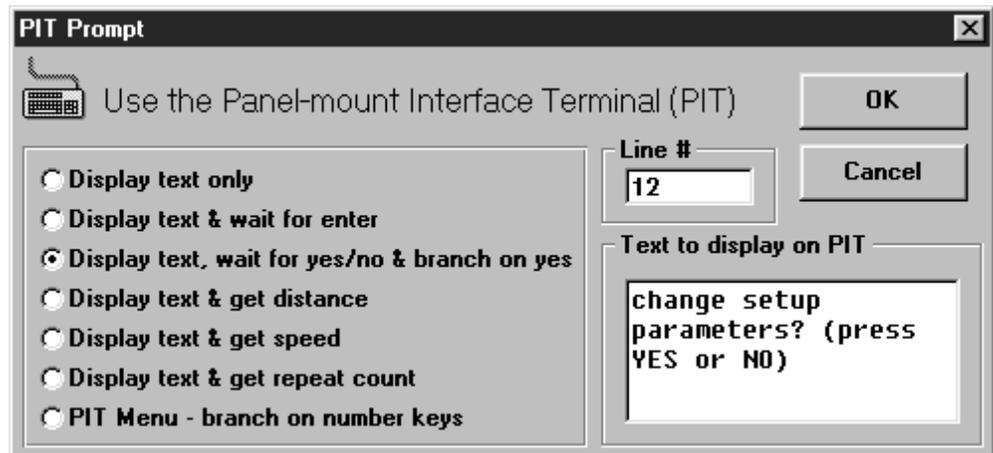

Figure 35 - PIT BRANCHING
**TO LET USER MAKE A DECISION (PIT BRANCHING) (see Figure 35)**